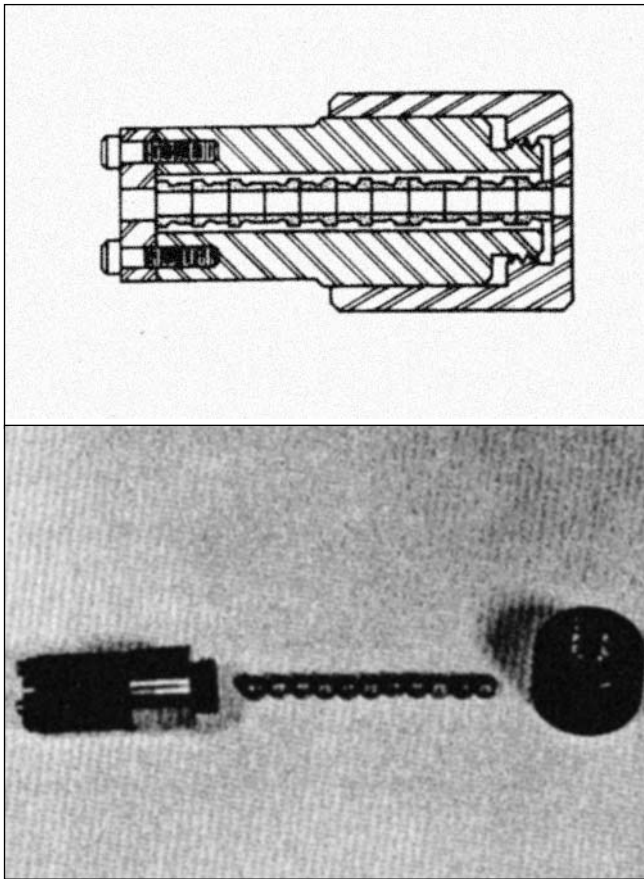

Figure 4, Small Parts
Thinwall, tubular shaped work that might deform under radical clamping should be clamped endwise to prevent distortion or marring of finished outside surfaces (see Figure 4).
**FIGURE 4:** STACKING SMALL PARTS FOR HONING. Inner races of miniature ball bearings are first lined up by their bores on an expanded mandrel, eleven to a stock, then clamped endwise in a holder. Handle is screwed into holder to absorb torque (not shown). Honing time per part is reduced greatly. Cross section of holder with parts in position for honing.